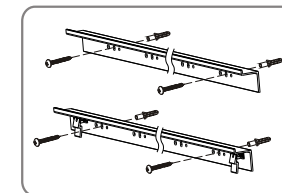

Figure 20
- Concrete wall mounting: to use an electric drill to drill 4 holes (2 holes for each bracket), and hammer the provided tapping anchors into each hole, then fix the brackets onto the wall by fastening the tapping screws to the tapping anchors. (Figure 20)